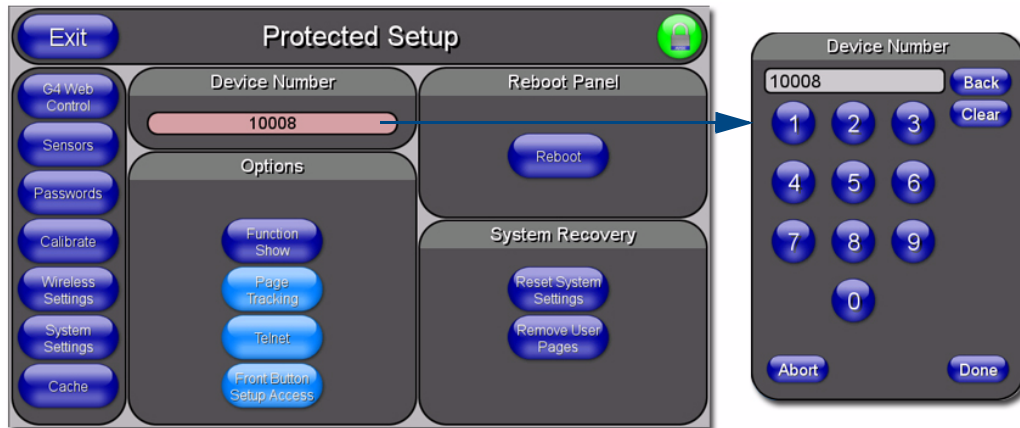

FIG. 34 Protected Setup page
1. Press the *Device Number* field to open the Device Number keypad (FIG. 34).